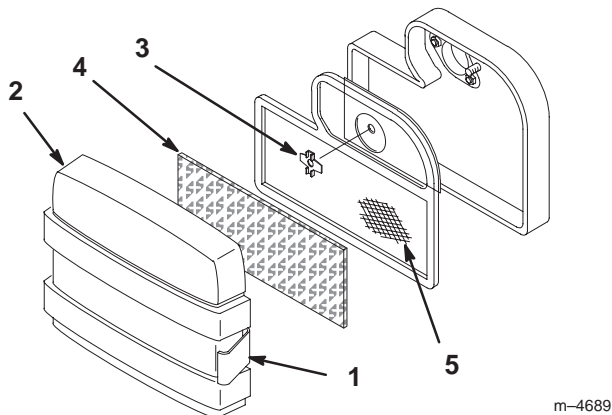

Figure 23
2. Clean around the air cleaner to prevent dirt from getting into the engine and causing damage. Pull out on retaining latches and remove the air cleaner cover (Fig. 23).
3. Unscrew nut and remove the air cleaner assembly (Fig. 23).
4. Carefully pull the foam element off the paper element (Fig. 23).
1. Carefully place the foam element onto the paper air cleaner element (Fig. 23).
2. Place the air cleaner assembly onto the air cleaner base (Fig. 23). Secure with nut.
3. Install the air cleaner cover and secure latches (Fig. 23).